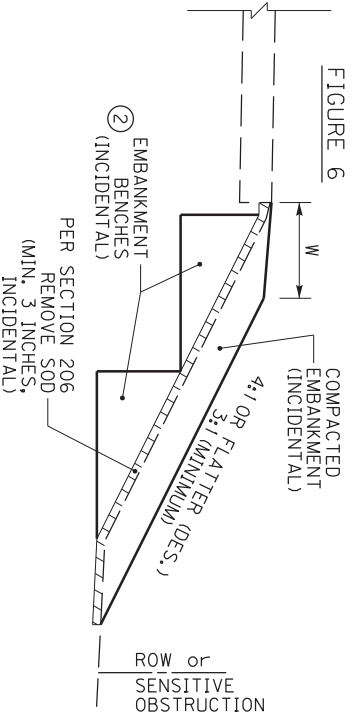

FIGURE 6
8. AS SHOWN IN FIGURE 6, AS THE HEIGHT OF THE FILL INCREASES, MULTIPLE EMBANKMENT BENCHES MAY BE REQUIRED.